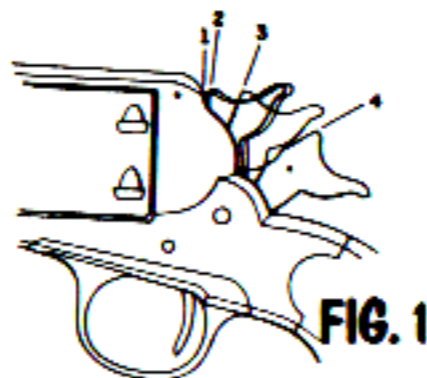

FIG. 1
There are four possible positions in which the hammer may be placed, as shown in Fig. 1:
**WARNING:** This revolver can be fired by excessive pull on the trigger from either the safety notch position, indicated by No. 2 in Figure 1, or the loading notch position indicated by No. 3 in Figure 1.